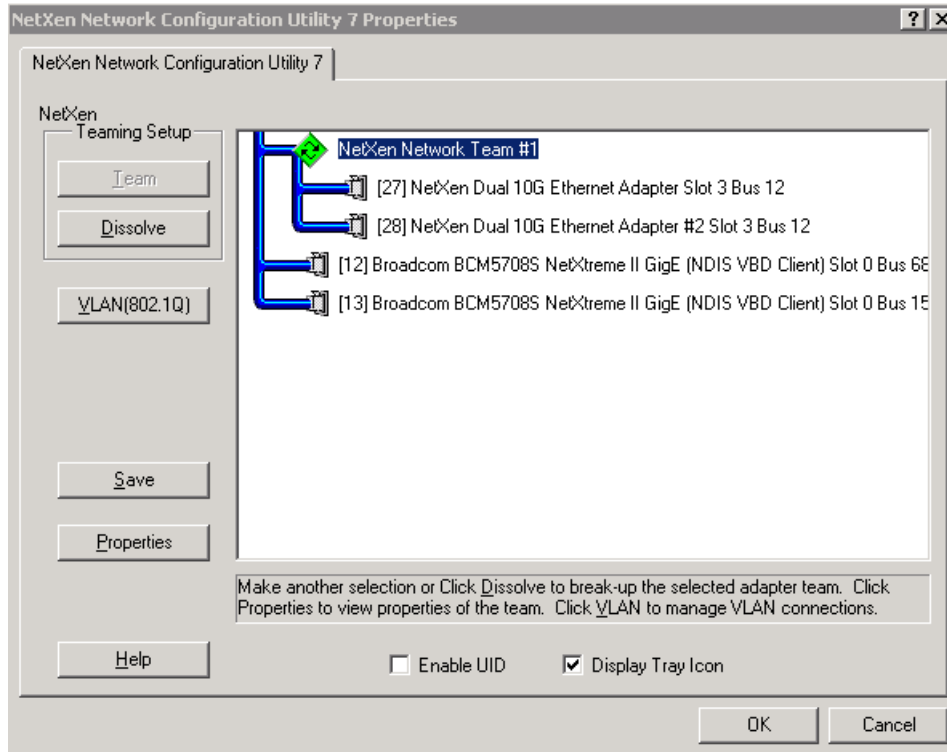

Figure 5-19 NetXen Network Configuration Utility 7 window
7. Back in the NetXen Network Configuration Utility (Figure 5-19 on page 76), the team now appears with a green square showing the existence of a team.